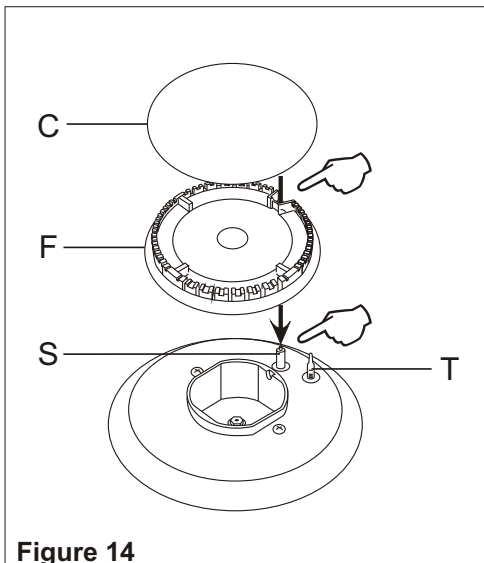

Figure 14
- It is very important to check that the burner flame distributor "F" and the cap "C" has been correctly positioned (see figure 14); failure to do so can cause serious problems.